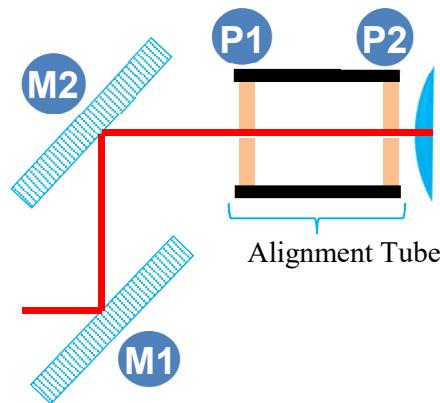

Figure 2-3: Alignment tube
- i. Make sure the beam reaches the first disk of the alignment tube. Use M1 to target the center of P1 (see **Figure 2-3**)
- r. Observe the beam in the Display screen and Use mirror M2 (see **Figure 2-3: Alignment tube**) to center the beam on the sensor